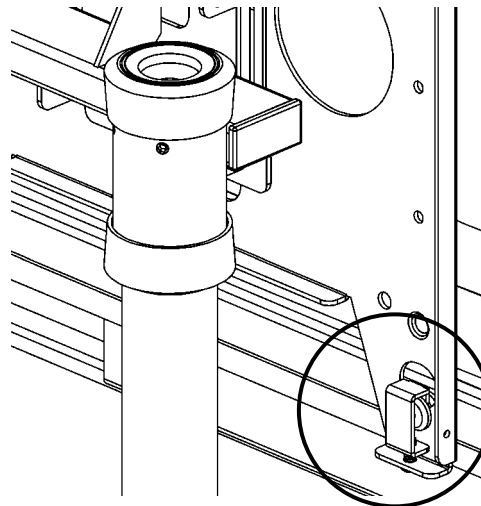
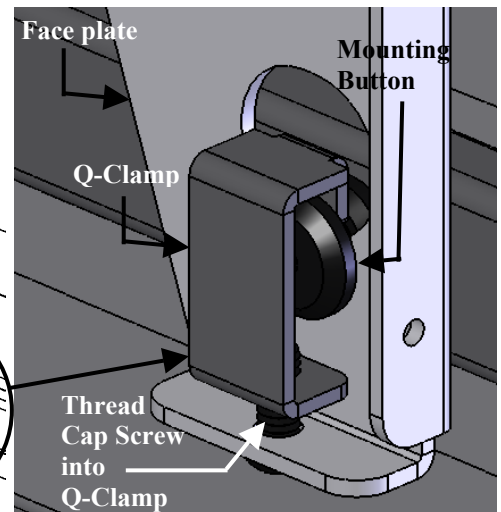

Figure 3
Figure 4
2. Place Q-Clamp over mounting button. Insert a 1/4-20 button head cap screw into the bottom of the mount face plate. Thread the cap screw into the bottom of the Q-Clamp. Tighten the cap screw until the Q-Clamp is snug on the mounting button. See Figure 3 and Figure 4.